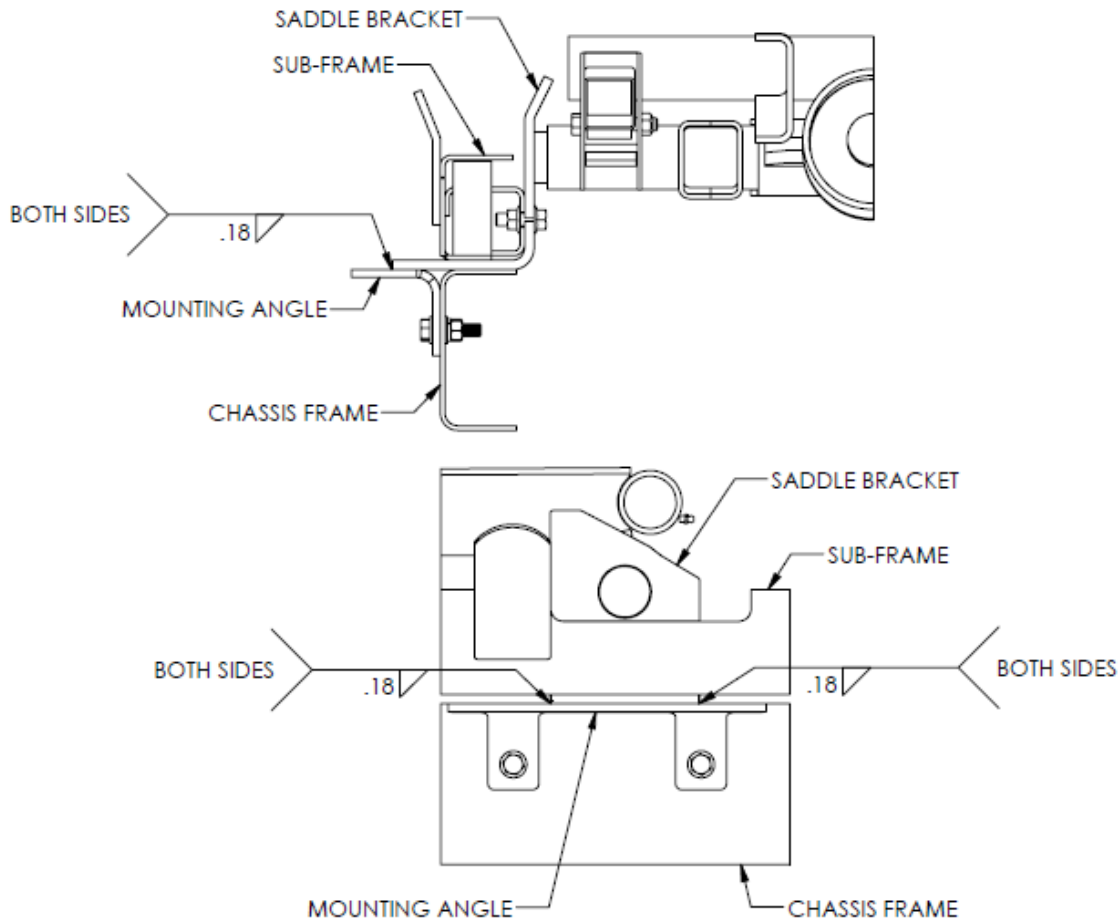

FIGURE 6
5. Finally, weld each mounting angle to its respective saddle flat. (*Figure 6*)